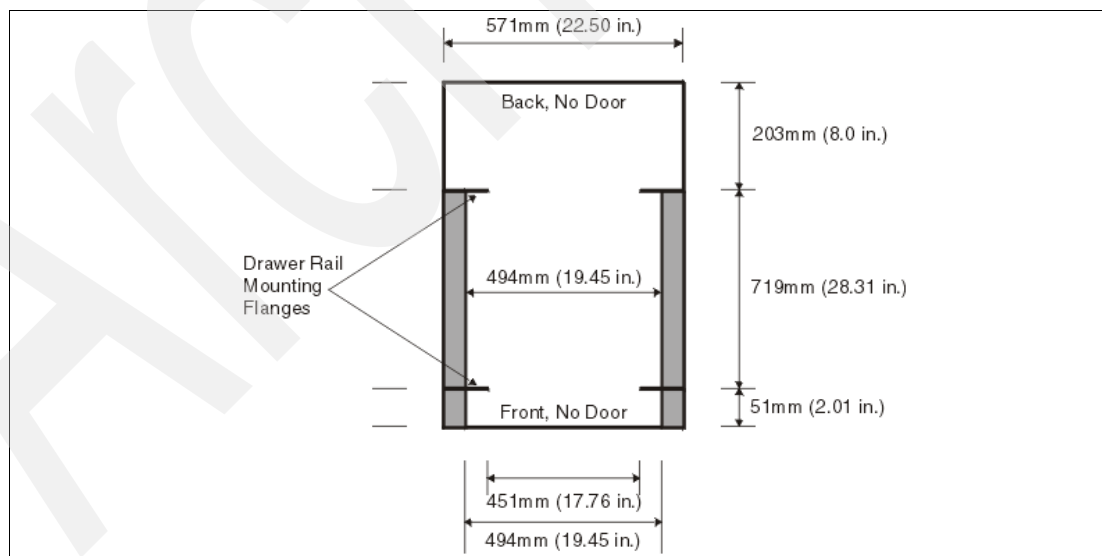

Figure 1-4 Top view of non-IBM rack specification dimensions
- ▶ The front rack opening must be 451 mm wide + 0.75 mm (17.73 inches + 0.03 inches), and the rail-mounting holes must be 465 mm + 0.8 mm (18.3 inches + 0.03 inches) apart on center (horizontal width between the vertical columns of holes on the two front-mounting flanges and on the two rear-mounting flanges). See Figure 1-4 for a top view showing the specification dimensions.